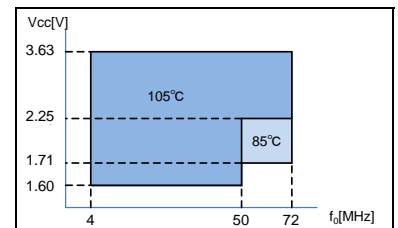

Figure 1 : The upper limit of Operating temperature and the related conditions
①Model ②Output(C: CMOS) ③Frequency ④Supply voltage
⑤Frequency tolerance ⑥Operating temperature range
⑦Internal identification code("A" is default)
④Supply voltage *See Figure 1
①Model ②Function(S:Standby) ③Supply voltage
④Frequency ⑤Frequency tolerance
③Supply voltage *See Figure 1